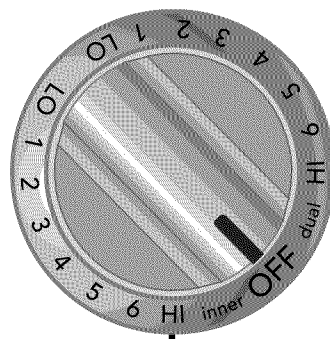

Figure 2
2. Push in and turn the control knob as shown in Figure 2 for smaller cookware or in Figure 3 for larger cookware.